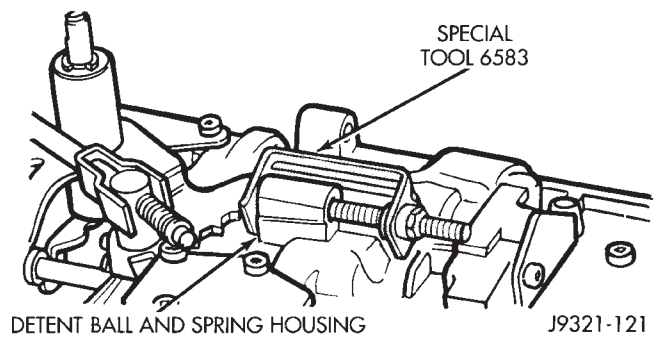

Fig. 103 Securing Detent Ball And Spring With Retainer Tool
- (3) Secure detent ball and spring in housing with retainer tool 6583 (Fig. 103).
(18) Install pressure regulator valve and switch valve in valve body.
(19) Install manual lever detent spring in housing. Place detent ball on end of spring and push ball and spring into housing. Secure ball and spring with Detent Retainer 6583 (Fig. 103).